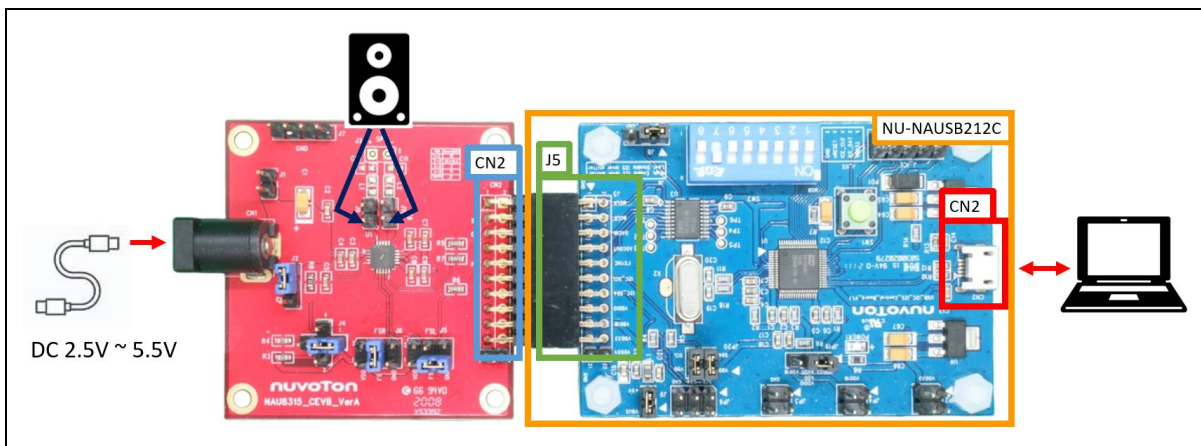

Figure 2-4 NU-NAUSB212C Connection
2. Connect J5 of NU-NAUSB212C to CN2 of NL-NAU8315. Figure 2-4 is the diagram after two boards are connected to each other.